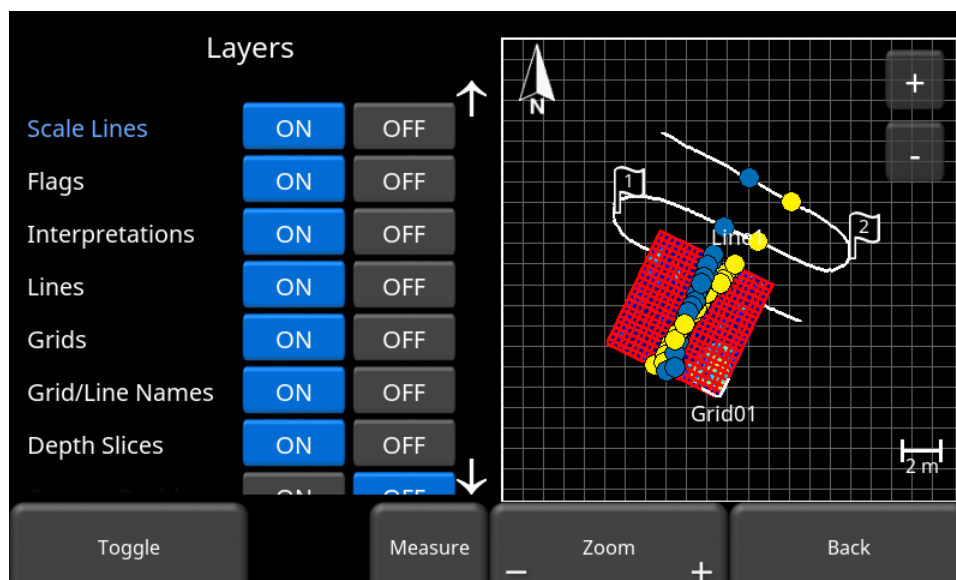

Figure 9-3: Setting layer options in MapView
- Pressing Options will display the screen shown in Figure 9-3 allowing you to customize the layer view. This is explained in the section below.
Pressing the **Options** button will allow you to customize what is shown in the MapView display. The screen will be split between the Layer options on the left and the MapView display on the right (Figure 9-3).
Press the **ON** or **OFF** button beside each option to show or hide that particular feature on the display on the right. Alternatively use the Up and Down arrows on the 4-way directional keypad to select the desired feature, then press the **Toggle** button on the bottom of the screen to turn that feature on or off. The image in Figure 9-3 shows them all turned ON.